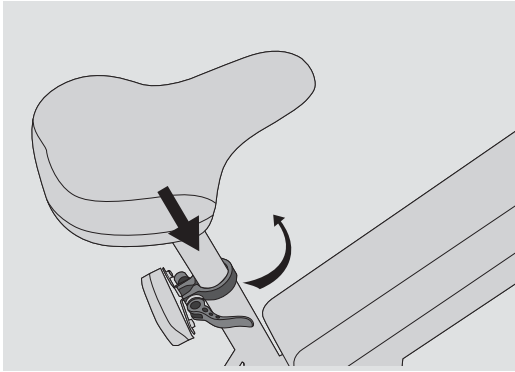

Figure 5.1
5. Step 5: Insert the seat tube, adjust the height of seat tube. When locking, please keep the saddle level (according to personal preference). Important: The seat tube bundle must be locked, and the depth of the seat tube must be at or above the safety line. (**As: Figure 5.1**)